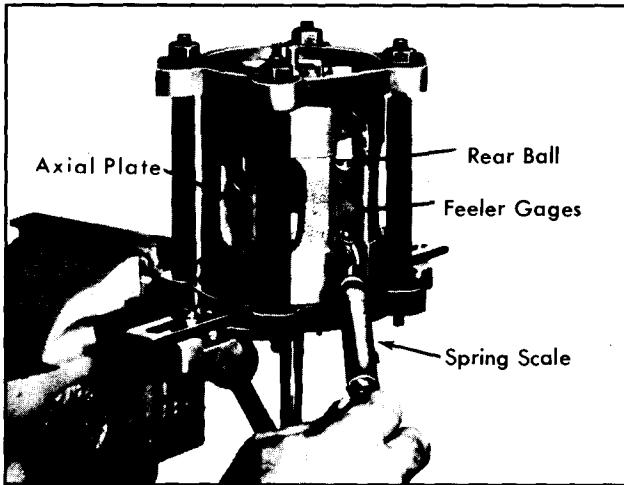

Figure 79—Gaging Rear Piston Ball
c. Pull on Spring Scale to slide Feeler Gage stock out from between ball and axial plate, and note reading on Spring Scale as Feeler Gage is removed (figure 79). **Reading should be between 4 and 8 ounces.**